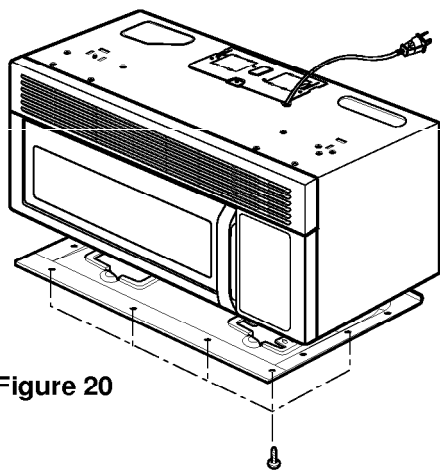
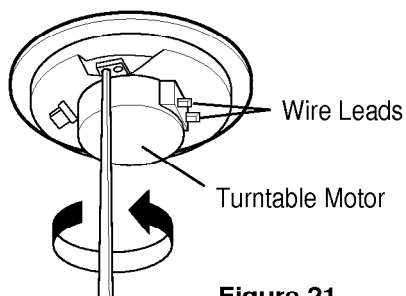

Figure 20
Figure 21
- (3) Remove the base plate by removing 6 screws securing it to the oven cavity. (Figure 20)
- (4) Disconnect the leadwire from the turntable motor terminals.
- (5) Remove the 2 screws securing the turntable motor to the oven cavity ASS'Y. (Figure 21)